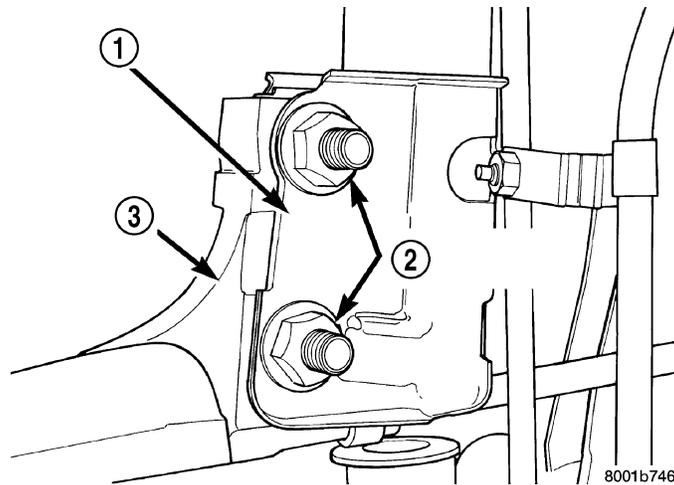

Fig. 3 STRUT TO STEERING KNUCKLE ATTACHING BOLTS
- 11. Remove the steering knuckle-to-strut attachment bolts from the steering knuckle (Fig. 3).